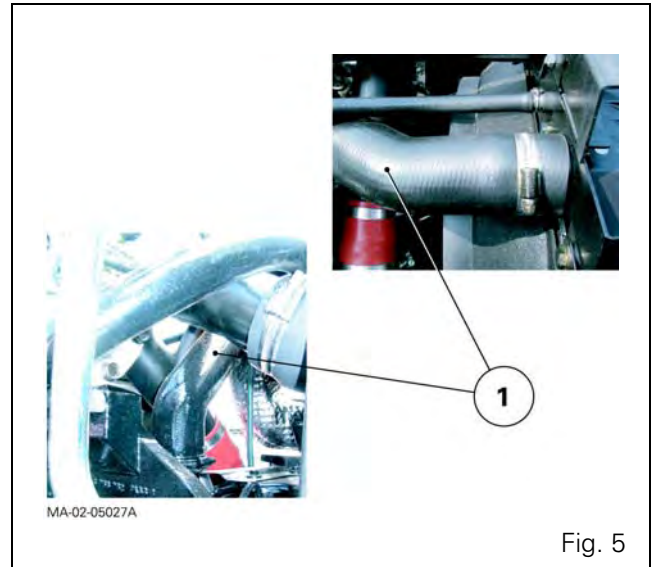

Fig. 5
10. Disconnect the upper hose (1) (Fig. 5).